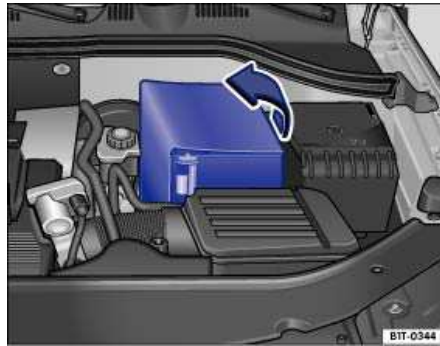

Fig. 185 In the engine compartment: Open the sleeve covering of the vehicle battery.
- Open the sleeve cover to the side ⇒ fig. 185 (Not for vehicles with 3.6 liter engines).